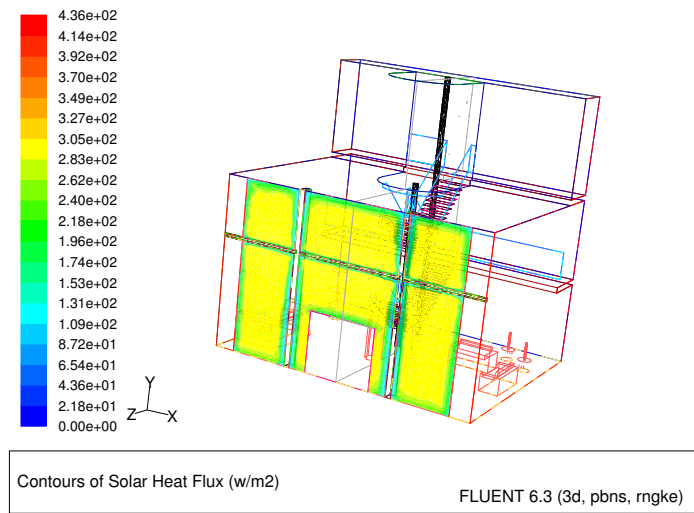

Figure 5: Contours of Solar Heat Flux on w\_south-glass
4. Display contours of Solar Heat Flux on `w_south-glass` (Figure 5).